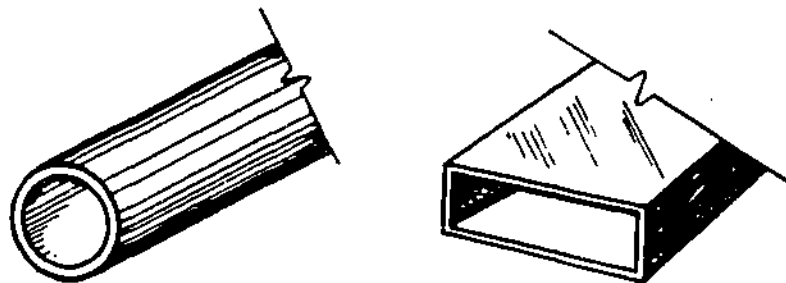

Figure 6
9. A waveguide is constructed as a hollow metal cylinder (pipe) or rectangular tube as shown in Figure 6.